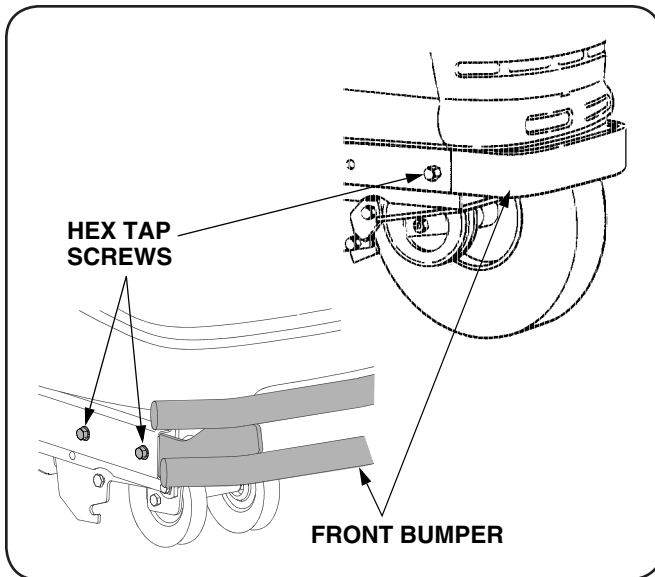

Figure 4-9
1. Remove the front bumper from the tractor frame by removing the hex tap screws securing the bumper in each side of the tractor frame. Slide the bumper out of frame. Store screws and bumper for later reassembly when the snow thrower is removed. Refer to Figure 4-9.